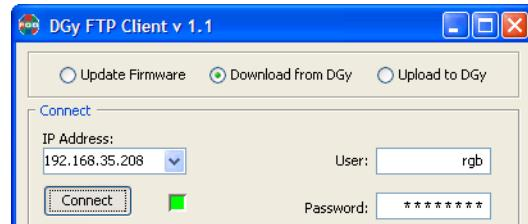

Figure 4-5. DGy 201 FTP Download Connection Established
201 and ready to begin the process of selecting and downloading clips to your PC. See Figure 4-5 below.
Step 6. Click on the **Connect** button and wait for the status icon to the right of the button to change from red to green (this may take from 30 to 90 seconds). The green icon indicates that you are successfully connected to the DGy 201 and ready to begin the process of selecting and uploading clips from your PC. See Figure 4-5 below.